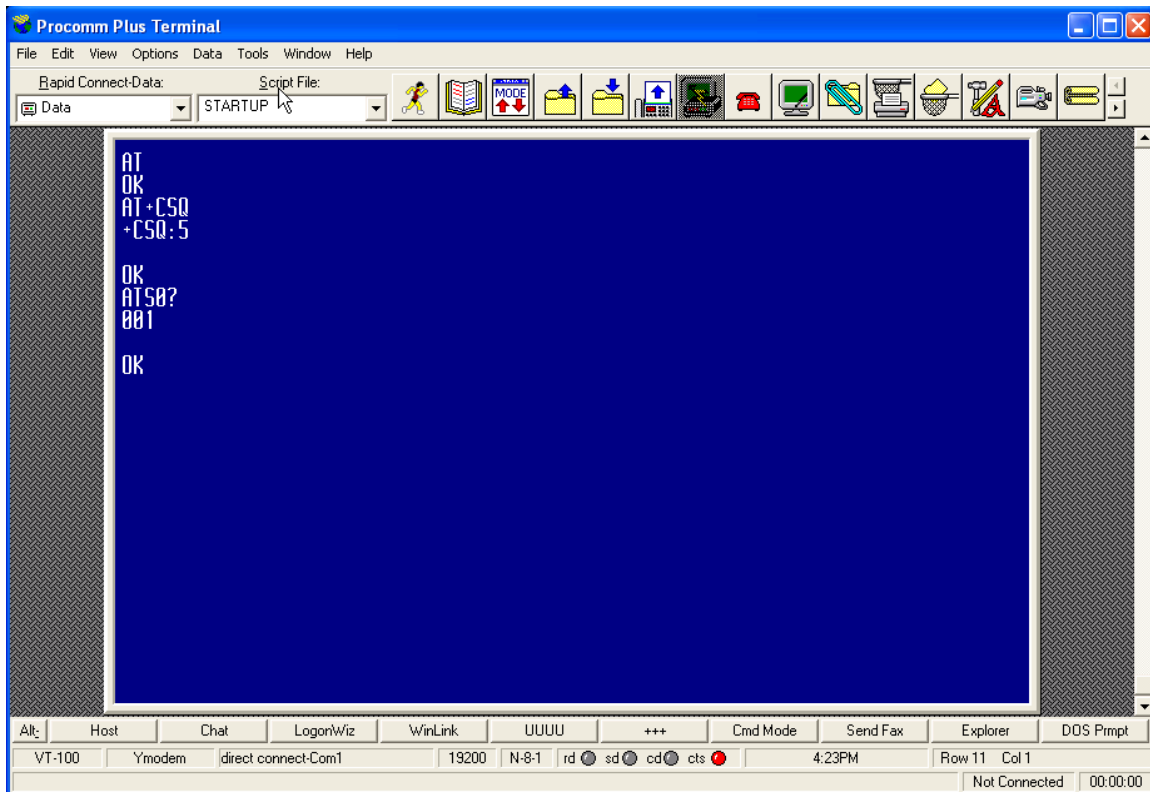

Fig 7. Procomm screen after sending the AT50 command
2. The modem will respond with a number from 000 to 010. In the case shown above (Fig 7), it responded with a 001, which is correct. If the response is 001, then skip to section 6 for the Xpert setup portion of the Bulletin (page 11).